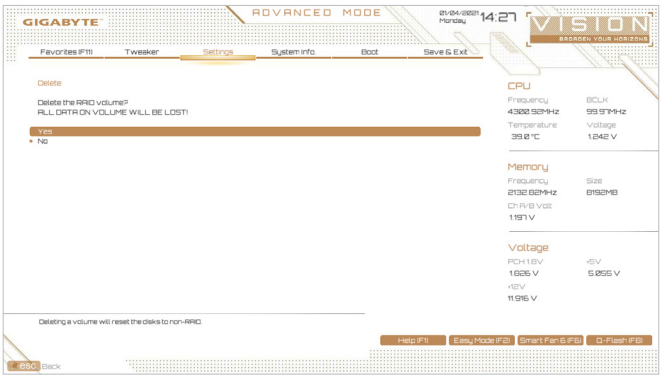

Figure 7
To delete a RAID array, press <Enter> on the volume to be deleted on the **Intel(R) Rapid Storage Technology** screen. After entering the **RAID VOLUME INFO** screen, press <Enter> on **Delete** to enter the **Delete** screen. Press <Enter> on **Yes** (Figure 7).